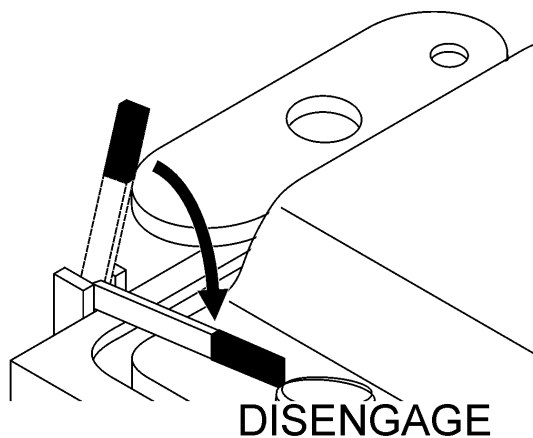

Figure 49. Transmission Lever (Disengaged Position)
1. Place the transmission engage/disengage lever in the **DISENGAGE** position (Figure 49).